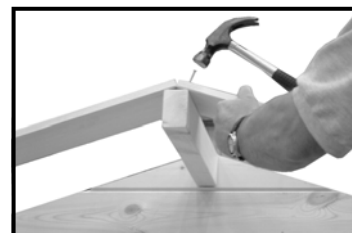

Fig G3
3. The first roof board is now ready to be positioned (fig G3) **Bevel edge downwards.** (flat surface where the tiles are fixed)
5. Start at the front, place the board level with the end of the roof bearers and central over the middle bearer to produce an even overhang (fig G3).